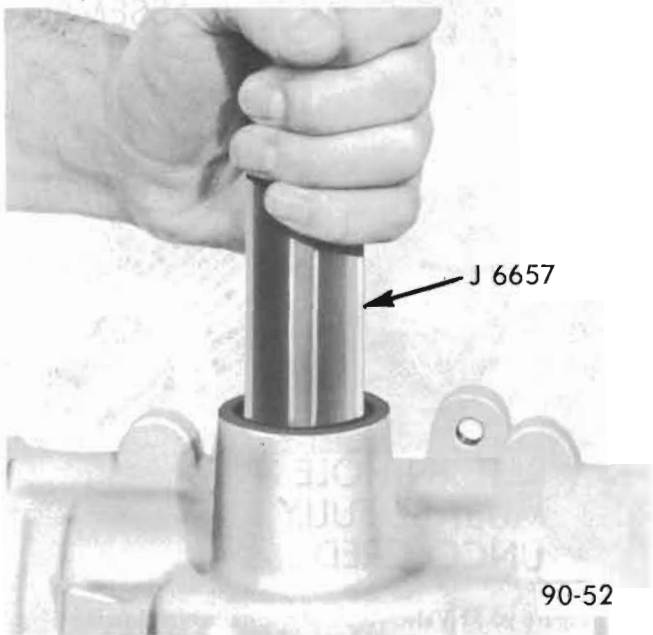

Figure 90-52 Removing Pitman Shaft Needle Bearing
2. Check the pitman shaft needle bearing for wear, pitting, or scoring. If damaged, remove needle bearing from gear housing bore by driving from the seal bore side of housing using Tool J-6657. See Figure 90-52. Discard bearing.